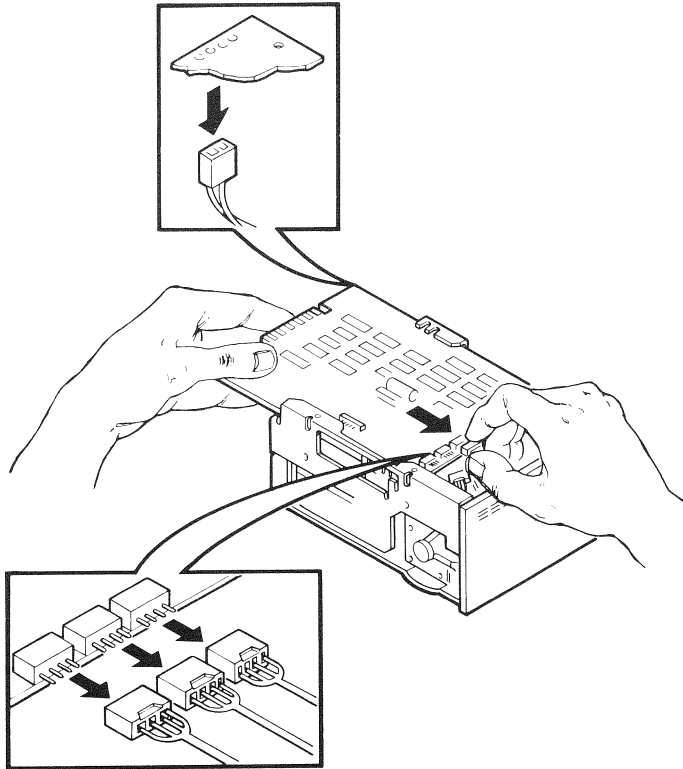

Figure 8-9 RD51 Disk Drive Connectors P6, P7, P8, and P4
4. Disconnect connectors P6, P7, and P8 from the front of the read/write printed circuit board (Figure 8-9).